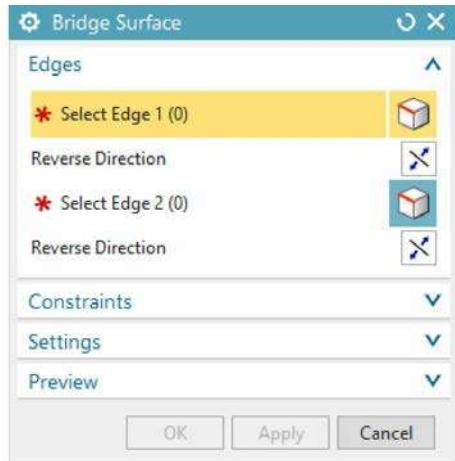

Figure 11-37 The **Bridge Surface** dialog box
1. Choose **Menu > Insert > Detail Feature > Bridge** from the **Top Border Bar**; the **Bridge Surface** dialog box will be displayed, as shown in Figure 11-37.